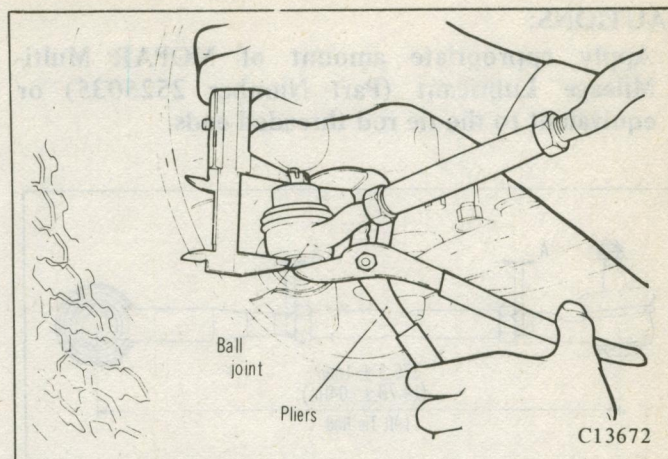

Fig. 31 Checking of Ball Joint Deflection
- (1) Check the tie rod ends for damage and deformation. Replace if necessary.
- (2) Grip the ball joint with pliers as shown in illustration, and, compressing the stud fully, measure the deflection and replace if necessary. (Fig. 31)
(1) Check the relay rod for damage and deformation. Replace if necessary.
(2) Check the axial deflection. Grip the ball joint with pliers as shown in the illustration in Fig. 31, and compressing the stud fully, measure the deflection.
(1) Check the idler arm for deformation and damage. Replace any defective part.
(2) Check the axial deflection. Grip the ball joint with pliers as shown in illustration, and, compressing the stud fully, measure the deflection. (Fig. 31)